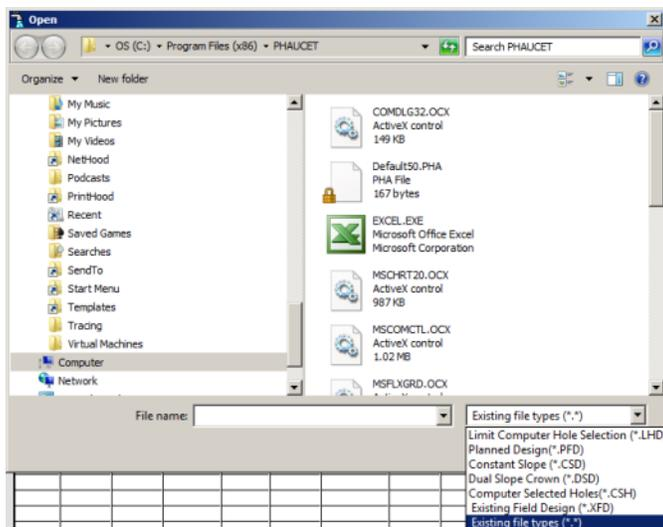

Figure 6 - Open dialog
**File -> Open:** Click on Open to view design files in the selected drive. There are six types of files that can be retrieved (fig. 6). All design file types (\*.\*) are shown by default.